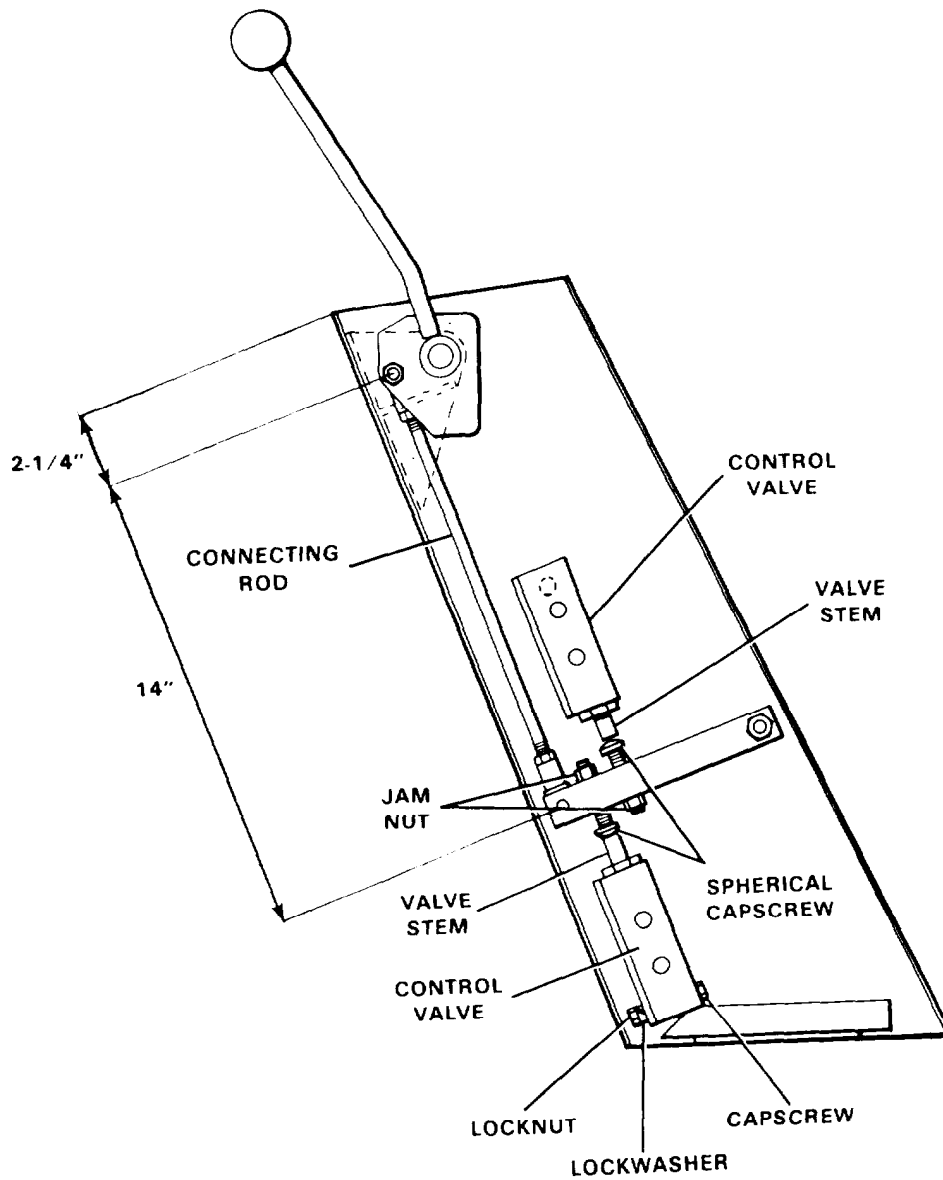

Figure 5C-9. Third Drum Control Valve (36Q372)
3. Check and adjust the connecting rod to the 2-1/4" and 14" dimension shown in Figure 5C-9.